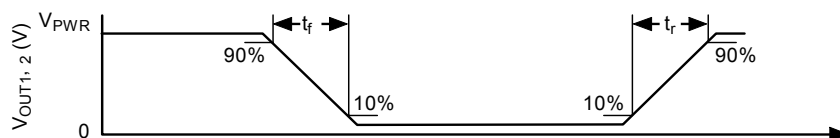

Figure 4. Output Switching Time
25. Rise Time is from the 10% to the 90% level and Fall Time is from the 90% to the 10% level of the output signal. See Figure 4.